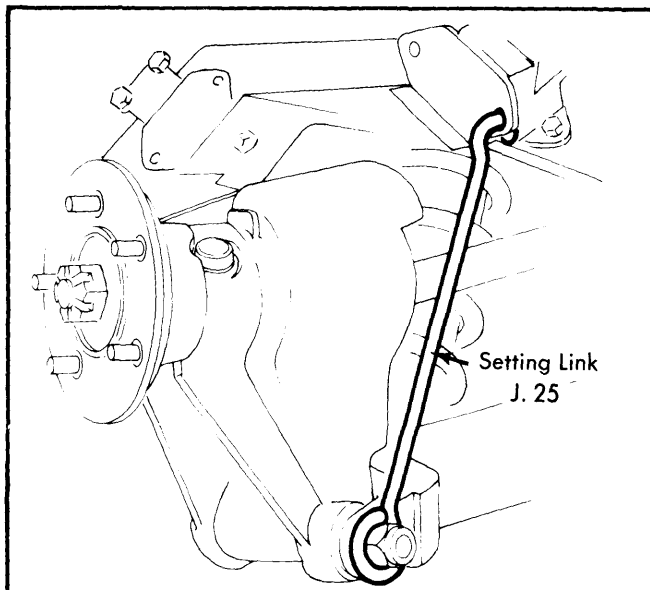

Fig. 2 Rear Suspension in Locked Position with Special Tool
3) Compress rear suspension and install suitable suspension setting links (J. 25), to lock rear suspension in place (See Fig. 2). Vehicle is now locked in half-loaded condition and caster and camber can be checked and adjusted.